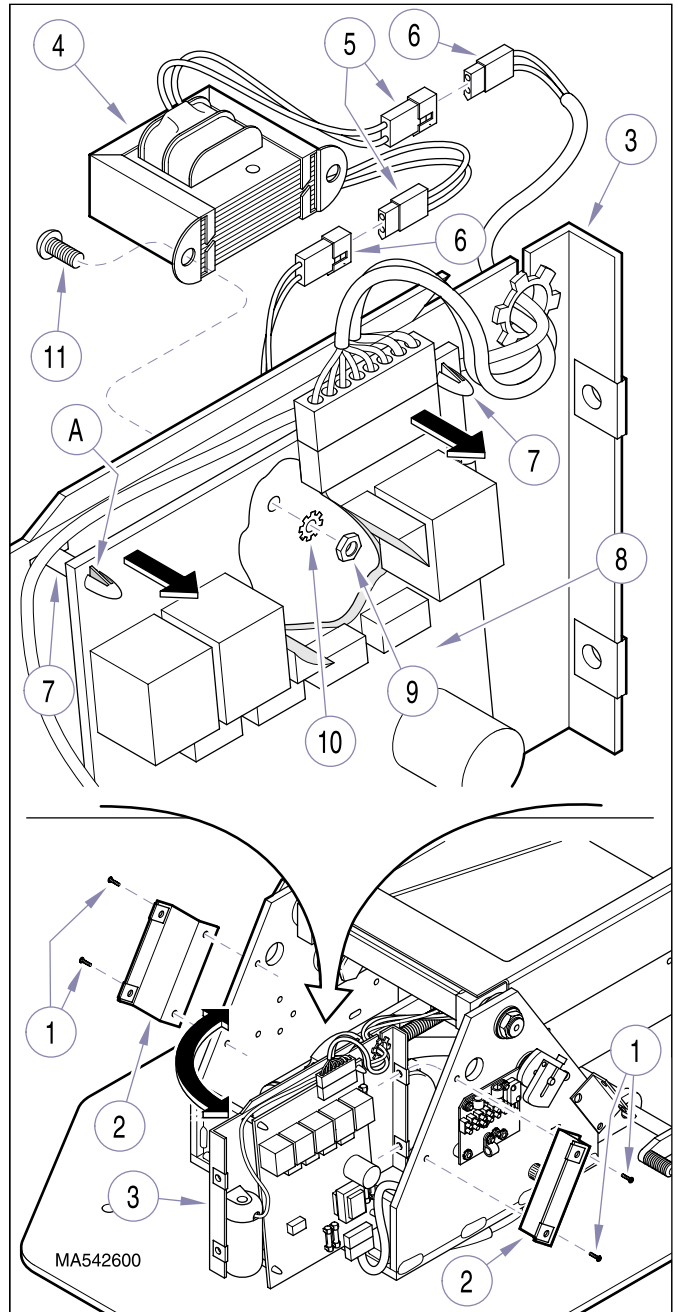

Figure 4-23. Lamp Transformer Removal / Installation
- (3) Remove three screws (1) and L.H. base cover (4) from center base cover (3).
- (4) Remove four screws (5) and center base cover (3) from two cover mounting brackets (6).
- (5) Remove four screws (1, Figure 4-23) and two cover mounting brackets (2) from mounting plate (3).
- (1) Install lamp transformer (4, Figure 4-23) on mounting plate (3) and secure with two screws (11), lockwashers (10), and nuts (9).
- (2) Push down on two top corners of PC circuit board (8) until locking tabs (A) of two standoffs (7) pop out, locking PC circuit board in place.
- (3) Connect two transformer harnesses (5) to two wire harnesses (6).
- (4) Position mounting plate (3) back in its normal position, making sure all wire harnesses are routed correctly.
- (5) Secure mounting plate (3) in place with two cover mounting brackets (2) and four screws (1).